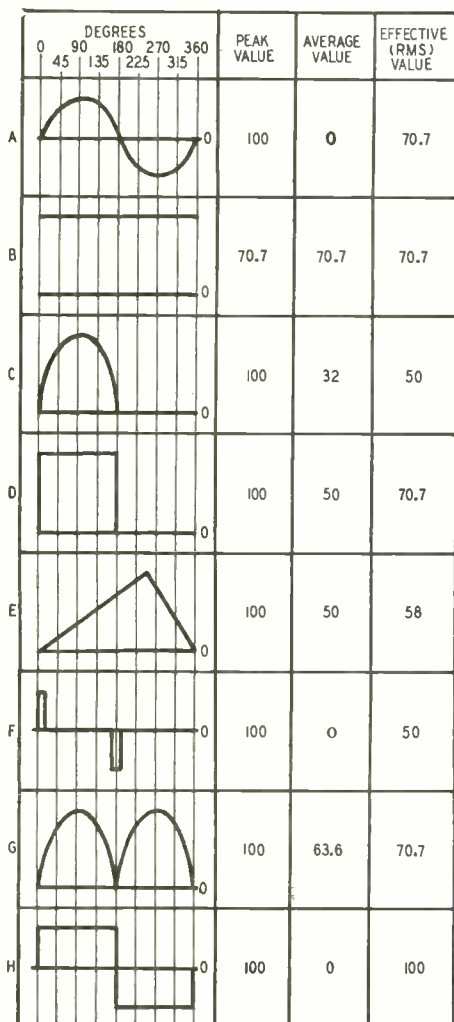

Fig. 1—Shape of the waveform affects peak, average, and effective values.
This is best illustrated by imagining the voltage of Fig. 1-a being measured by our voltmeter. The coil swings in one direction for the positive half of the cycle and in the opposite direction for the negative half. If both alternations are equal in amplitude, we have equal swings. The average of the two swings is, of course, zero, which is what the meter reads. The swinging of the needle is visible only if the frequency is very low. The meter reading is the average of the instantaneous motions of the needle, the average of the currents flowing through the coil over a short period of time. All d.c. meters are calibrated in average values.
What is the significance of the *average value*? Vacuum-tube potentials and currents may vary with instantaneous signal level but proper operation is often determined by the average values. On the other hand, circuit components and the tubes themselves must be selected on the basis of the heating effect of the currents passing through them, which depends on the effective or r.m.s. value. For Fig. 1-b, a d.c. "wave," the average, effective, and peak values are alike. The d.c. meter is designed to measure this type of voltage accurately for only then can it register the heating effect directly. Compare this with Fig. 1-a where the meter would read nothing, yet we know the effective value is as great as for Fig. 1-b.
conventional meters. Step 1 in our calculations is to divide one cycle of any wave into a number of equal time intervals. The greater the number, the better the accuracy. In Fig. 1, the waves are divided into eight parts, though this is far too few for any accuracy. We will then note the amplitude at each of these intervals.
The direction of the current flow has no bearing on its heating effect. Both the negative and positive alternations of a current heat equally a resistor through which it flows. (Note that Fig. 1-g has the same effective value as 1-a.) In other words, polarity is ignored for r.m.s. calculations, but not for averages.
Step 2 is to calculate the average value by adding all the amplitudes and dividing the sum by the number of intervals. Table I lists the data for four of the waves illustrated in Fig. 1. The others are obtained similarly.
As a sample of the calculation of the average value, for Fig. 1-d, the sum of the amplitudes is 400 volts. Dividing by the number of points taken, 8, we arrive at an average value of 50 volts. For 1-a we get zero volts.
The *effective* value is next calculated. The heat produced by a current varies directly as the square of the current ($P = I^2R$), or of the voltage ($P = E^2/R$). The term r.m.s. means "the square root of the average of the squared amplitudes." That is, the effective current is that whose square is the average of all the heating effects. For a sample calculation, for Fig. 1-d (see Table I), the sum of the squared values is 40,000. Dividing by 8, the average of the squares is found to be 5,000. The square root of 5,000 is 70.7 which is the r.m.s. value for the wave. Calculating for Fig. 1-h, we find the effective value is equal to the peak, and the average value to zero.
It is somewhat simpler to understand this last, if we imagine any a.c. wave as it would appear *after full-wave rectification* as in Fig. 1-g compared with 1-a. This is in agreement with what has been said about the direction of the current flow being unimportant. The calculations are based on this "rectified"
Coming back to our d.c. voltmeter, let's see what happens in the measurement of pulsating d.c. voltages. If Fig. 1-d were the plate voltage of a tube, the 50-volt average value would be used in determining the gain or power-handling ability of the tube. The 70.7-volt r.m.s. value would be needed to calculate the wattage of the load resistor. The peak value of 100 volts should be known to select tubes and capacitors that won't break down. The meter, however, is giving us only the
The square wave of Fig. 1-d is formed by the addition of a great many harmonics. It is very possible that many of the harmonics will be lost due to bypassing capacitance in the meter circuits. Something like Fig. 1-c might result. Assume that the peak value remains as high as that of the original square wave. (This is very unlikely.) Then the average value is 32 volts and the effective value is 50 volts, as calculated from Table I. Our meter would read too low. This extreme case indicates what is to be expected and is *not* to be taken as a practical example.
There is yet another cause of error in using the meter on pulses. Look at Fig. 2, the electrical circuit for the d.c. voltmeter. R is the large value of resistance used as a multiplier and L the inductance of the meter coil (usually small in value). Such a circuit is a differentiator. The voltage across the inductance might look like Fig. 1-f if the square wave were applied to the input terminals. It is easy to see that the average and r.m.s. values might be far different from those of the original square wave.
The inaccuracies noted above seem to be avoided by the use of a d.c. vacuum-tube voltmeter operating on peak values. From Fig. 1 it is obvious that, regardless of wave shape, the same peak value will be read for c, d, and e. Unfortunately, the meter is intended to be used with voltages such as Fig. 1-b where the peak value is also the average and r.m.s. value. This is not true